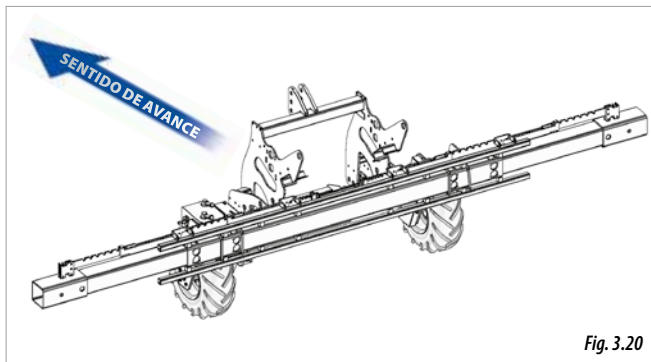

Fig. 3.20
- SIMPLE TELESCÓPICO VARIANT (Fig. 3.20).